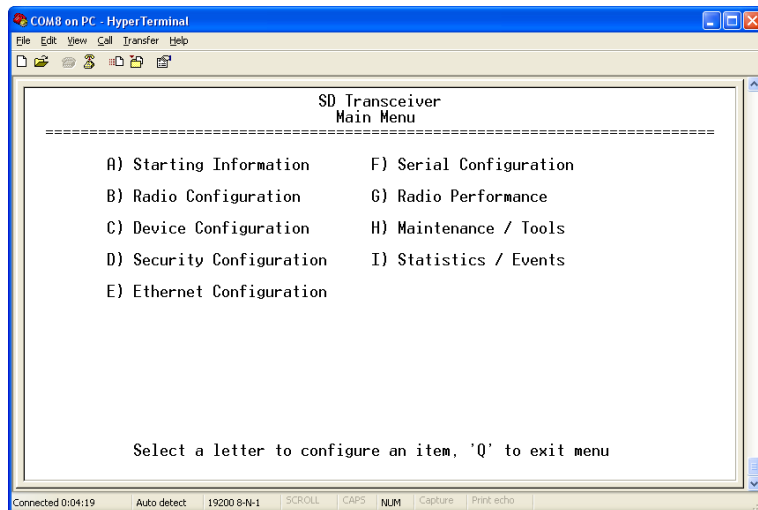

Figure 3. Main Menu Screen
7. Press **G** to access the Main Menu (Figure 3). This is the gateway to all settable parameters of the radio. Menu selections are made by pressing the letter shown to the left of a item name.